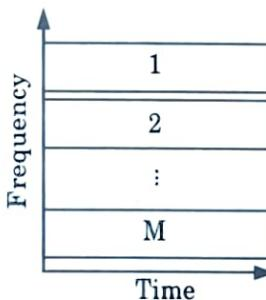

Fig. 3.5.1. Frequency division multiple access.
- FDMA divides the entire channel bandwidth into equal subchannels that are sufficiently separated (via guard bands) to prevent co-channel interference, as shown in Fig.3.5.1.